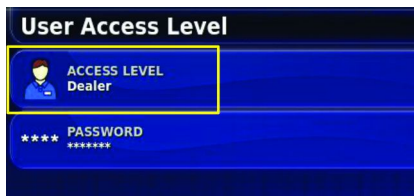

Figure 212
**Note:** The user access level screen displays the DEALER icon (Figure 212).